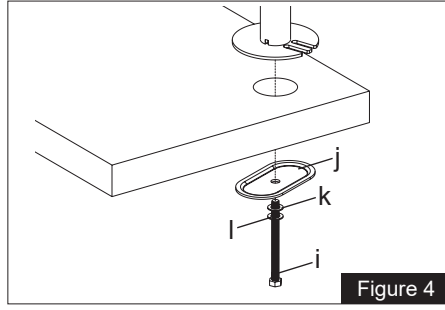

Figure 4
1. Install the Grommet Base Plate (**m**) to the Pole (**a**) using 3pcs M5x14 Bolts (**f**), and tighten using the Allen Key (**o**), see *Figure 4*.
2. Position the Pole (**a**) on the mounting surface and secure using the Support Plate (**j**), M10 Washer (**k**), Spring Washer (**l**) and M10 Bolt (**i**). Fasten the M10 Bolt using provided Wrench (**p**), see *Figure 4*.